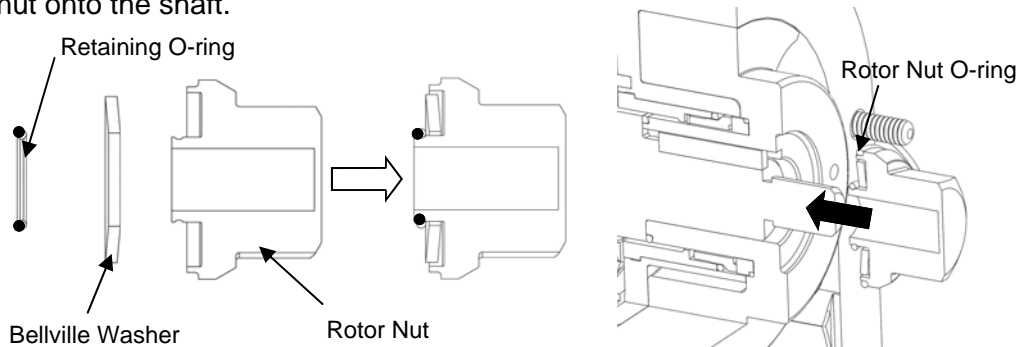

Figure 32: Rotor Nut Assembly
- 6) Install the Bellville washers in the rotor nuts in the orientation shown and hold them in place using the small retaining o-rings (Figure 32). Install a rotor nut o-ring before threading the nut onto the shaft.